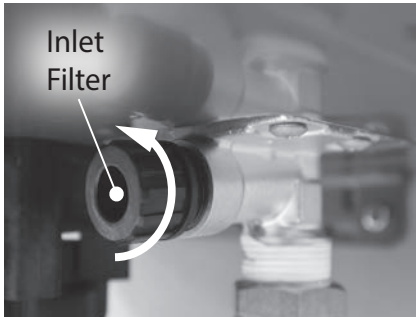

Figure 61 - Removing the inlet filter
- 8 Locate and remove the inlet filter as shown in Figure 61 to drain any residual water left in the system. Place a bucket or pan underneath inlet filter to collect water during removal.